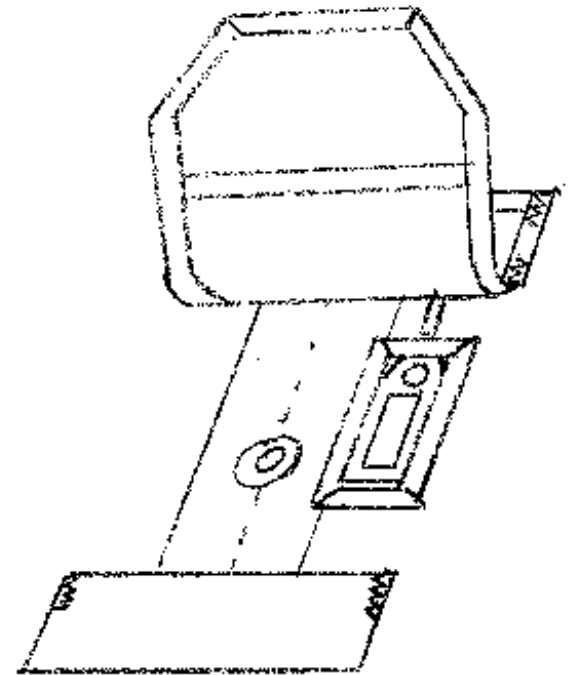

Figure 7-2
Step 4 Turn the rig over and pull the rigger access tabs on the pin protector door out from their pockets. (*Figure 7-2*)
Step 5 Insert one (1) or two (2) fingers up through the aperture cut in the back pad. Push the control unit out through the back pad aperture using your fingers as a guide.